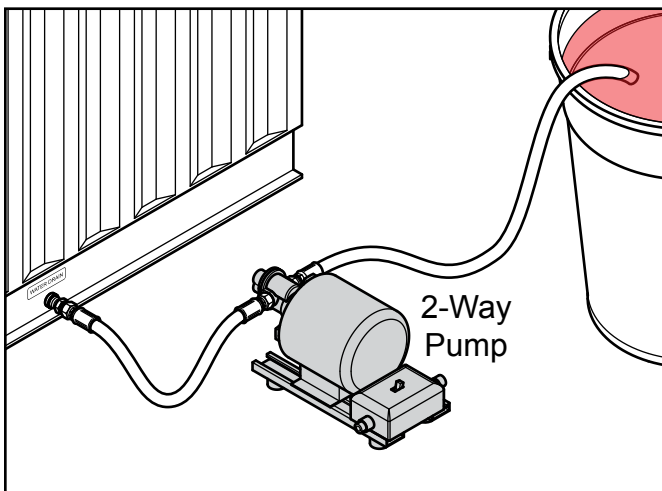

Figure 3. Draining Coolant
5. Using a pump, drain the coolant from the water drain outlet into a clean container which can hold approximately 150 gallons. The coolant will be reused. See Figure 3.